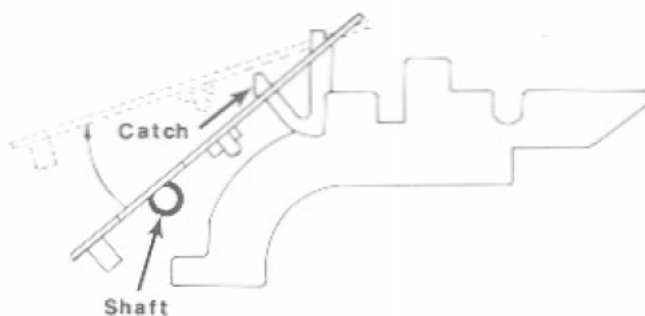

Figure 4-9. Removing The Cell Assembly
2. Push back on the catch (as shown in *figure 4-9*) to unhook the board, then remove the board.